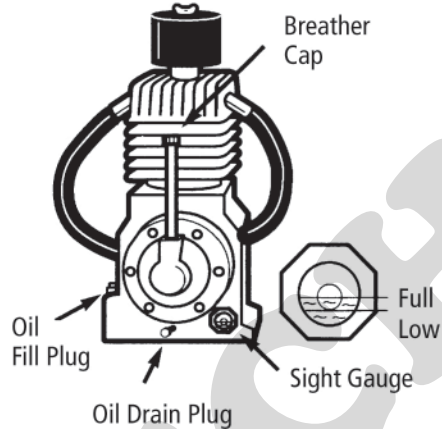

Figure 3 – Oil Fill Diagrams
**▲ CAUTION** Fill pump with single-viscosity, ISO 100 (SAE 30), non-detergent, compressor oil. A synthetic oil (SAE 5W30) may also be used. Add oil only through the oil fill plug. Pouring oil into any other orifice will cause oil to leak and spray out during operation. Fill to the center of the sight gauge (see Figure 3).